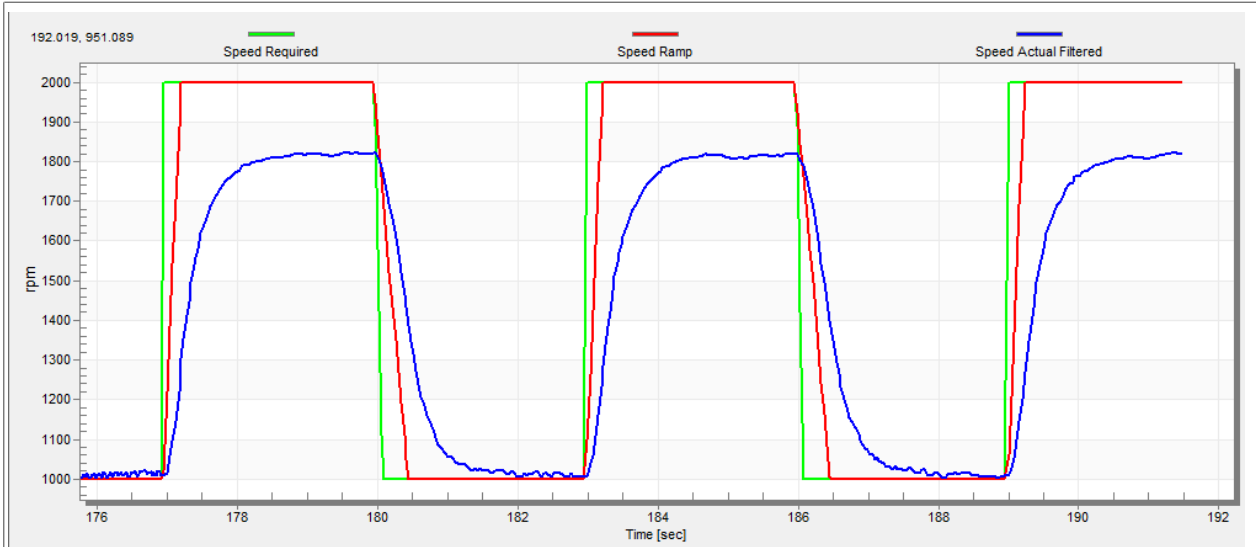

Figure 24. Speed controller response—SL_Ki value is low, Speed Ramp is not achieved
The motor speed control loop is a first-order function with a mechanical time constant that depends on the motor inertia and friction. If the mechanical constant is available, the PI controller constants can be tuned using the loop bandwidth and attenuation. Otherwise, the manual tuning of the P and I portions of the speed controllers is available to obtain the required speed response (see the example response in Figure 24). There are dozens of approaches to tune the PI controller constants. The following steps provide an approach to set and tune the speed PI controller for a PM synchronous motor:
- The “SL_Ki” value is low and the “Speed Actual Filtered” does not achieve the “Speed Ramp” (see Figure 24).